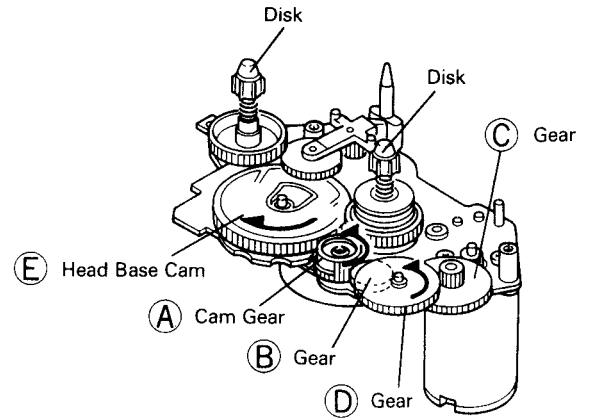

Fig. 6-12
1. Re-assemble the disk base unit in order of numbers (**A**) to (**E**) shown in Fig. 6-12.
b) Engage the gears (**B**), (**C**) and (**D**) with each other. (Fig. 6-12)